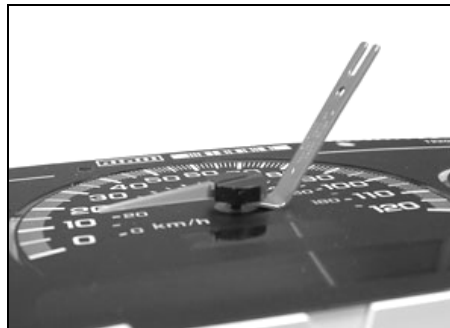

Figure 9
- A. Using the pointer removal tool, remove the six pointers by gently prying upwards under the base of each pointer hub. (See Figure 9)